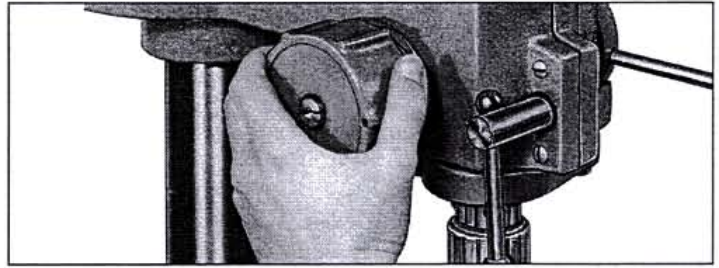

Figure 5
To increase tension, lower quill to bottom of stroke, turn the spring cap counter-clockwise. To release tension, pull out spring cap (fig. 5) and turn clockwise.
1. Release spindle return spring tension (fig. 5).